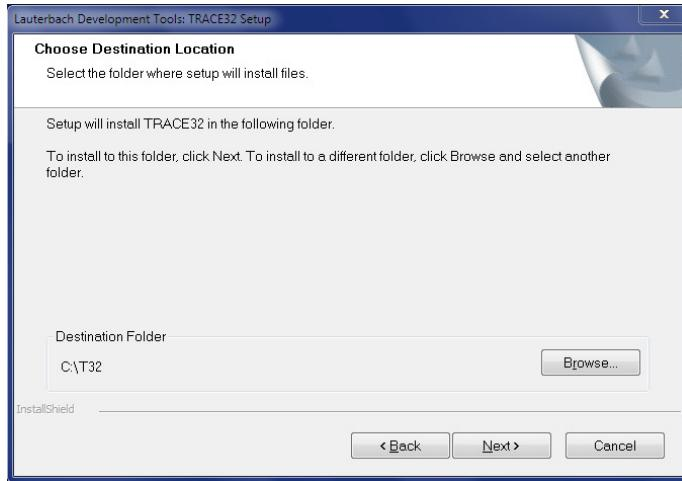

Figure 5.22: Choose Destination Location page
2. On the **Choose Destination Location** page, set the installation path (see Figure 5.22 on this page).